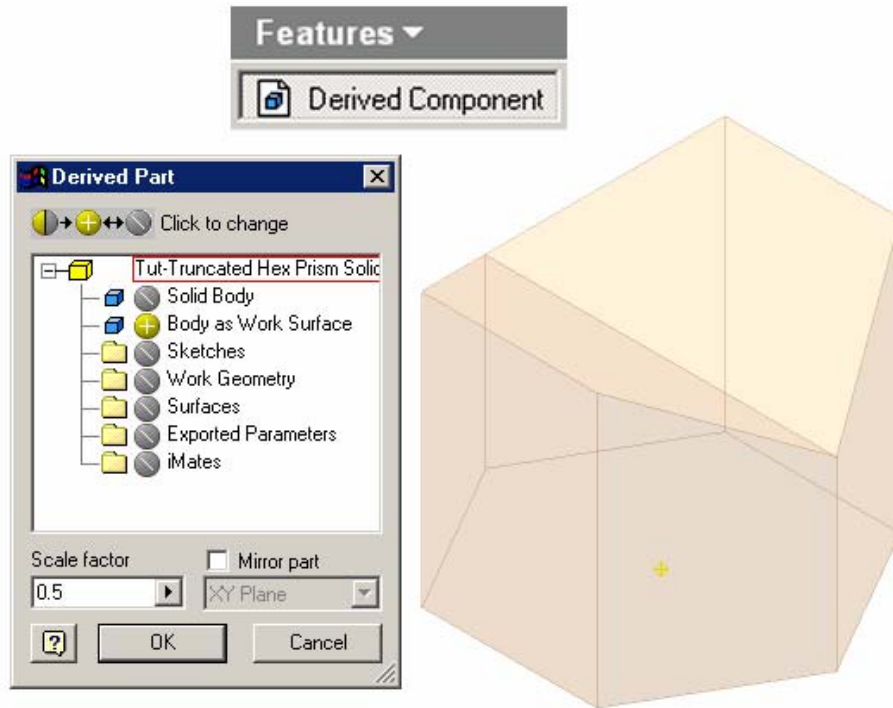

Figure 1B-2A: Placing the *Derived Part*.
- Completing the 3D folded model and 2D **Flat Pattern** view of the sheet metal part (*Figure 1B-2G*).